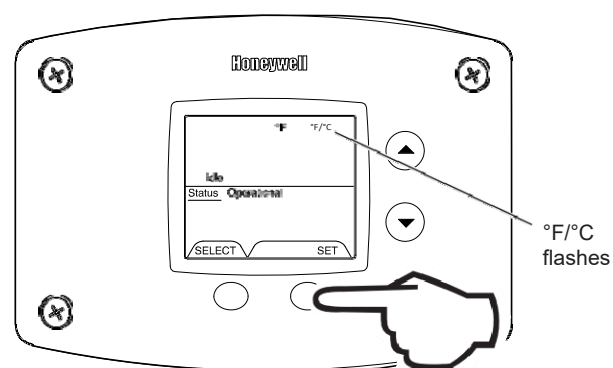

Fig. 32
2. Press 'SET' button to change temperature format. Symbol °F/ °C will flash (Fig. 32).